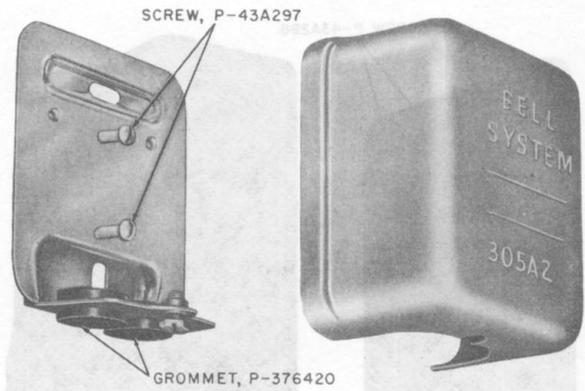

Fig. 12—305A2 Protector Mounting
3.05 The 305A2 protector mounting (Fig. 12 and 13) is intended to house the 123A1A, 123B1A, or 128A1A-2 protector for outdoor installation. It is preferred over the 150B cover for extremely hot or cold temperatures. This protector mounting consists of a metal base and a